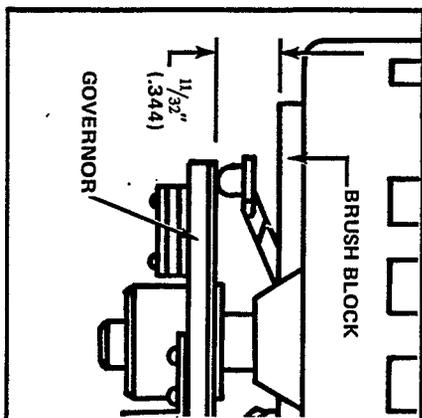

Figure 14. Loosening Governor Assembly (left) for Clearance Adjustment.
**C. REPLACING GOVERNOR BRUSHES (see Figure 14)**
3. Check and adjust governor for 1/32" clearance between brush block plate surface and governor slip rings (see Figure 14).
4. To adjust clearance, unloosen set screw which secures governor assembly to motor shaft as shown in Figure 14; adjust governor for 1/32" clearance and retighten set screw.
2. Referring to Figure 14, remove the Governor by loosening the set screw; remove the Governor Brush Block as described in C-1, above. To replace the motor, proceed to step 3.